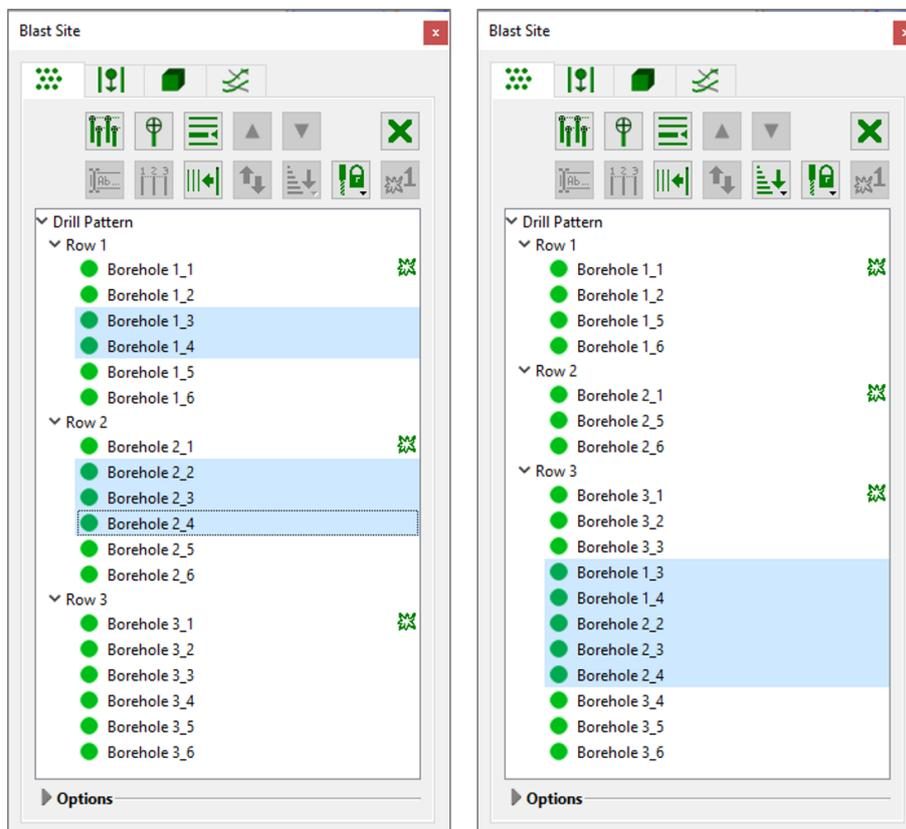

Figure 33: Assigning a borehole selection to a row by drag and drop. The selection originates from different rows and has been dropped at borehole 3_3 in row 3.
- A borehole selection may include boreholes from different rows (Figure 33)
- Boreholes are inserted in the same logic order (Figure 33)
- If boreholes are dragged, they are inserted after the target borehole (Figure 33), or at the top of the row if dropped at the row entry.